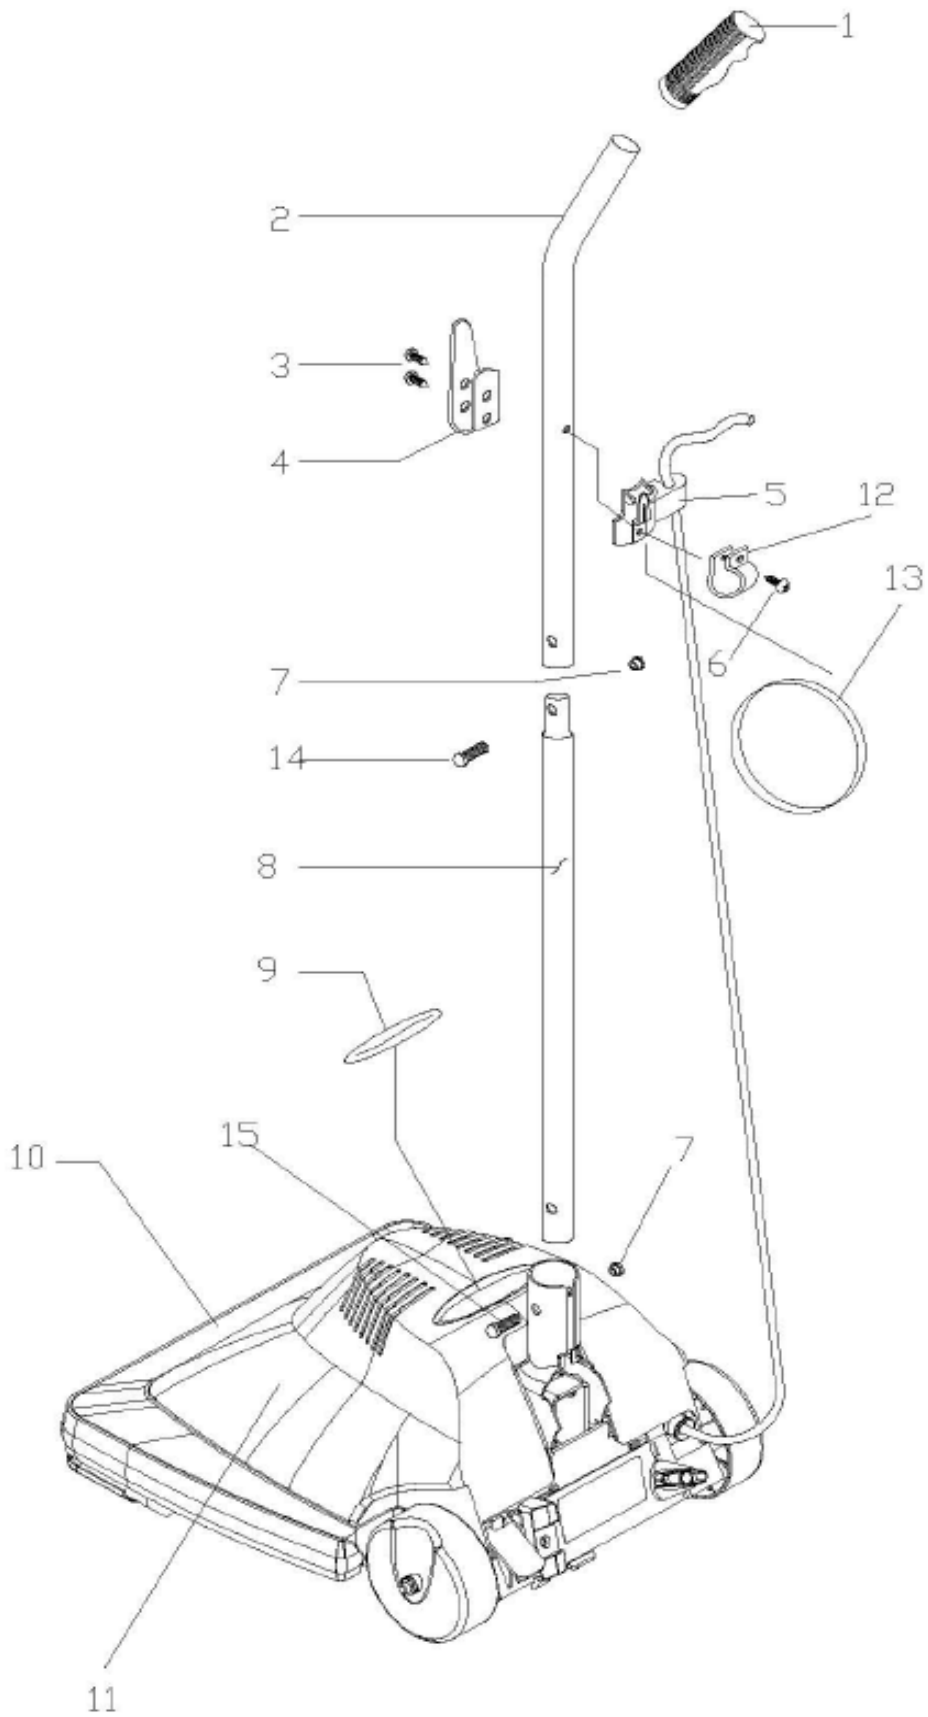

FIG.1.
2.-TO REMOVE HANDLE TUBE (2 AND 8) FIG.1 AND FIG.3